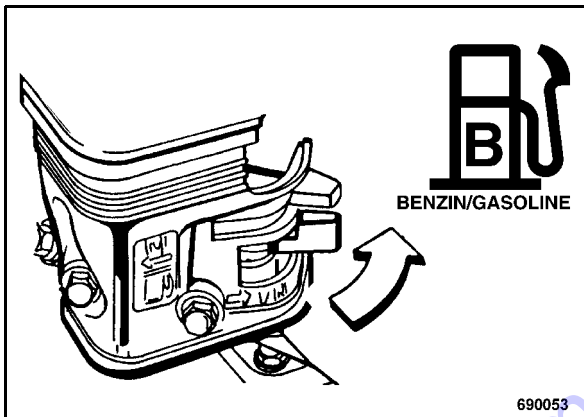

Fig. 55
- Open the fuel tap (Fig. 55) by turning in direction of arrow.